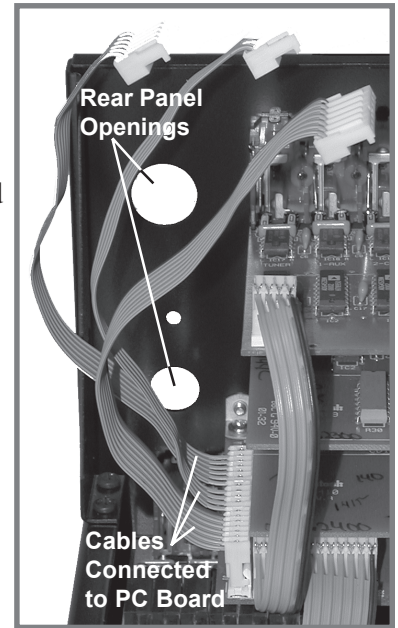

Figure 5
7. Relocate the free ends of the previously installed cables and rotate them over the top and to the right of the attached cable ends. Refer to figure 5.
10. Orient the Module so the "F" Connector, that is at the bottom of the Module, will fit through the lower opening of the MX119, MX134, MX135 or MX136 Rear Panel (the cover was previously removed in Step 4) and the three PC Board Connectors are facing up. Refer to figures 5 and 6.